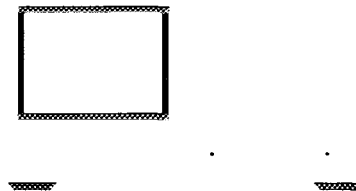

Figure 1-14. Transmission Load Match Connections
- 11 Connect the equipment as shown in Figure 1-14 and press PRESET.